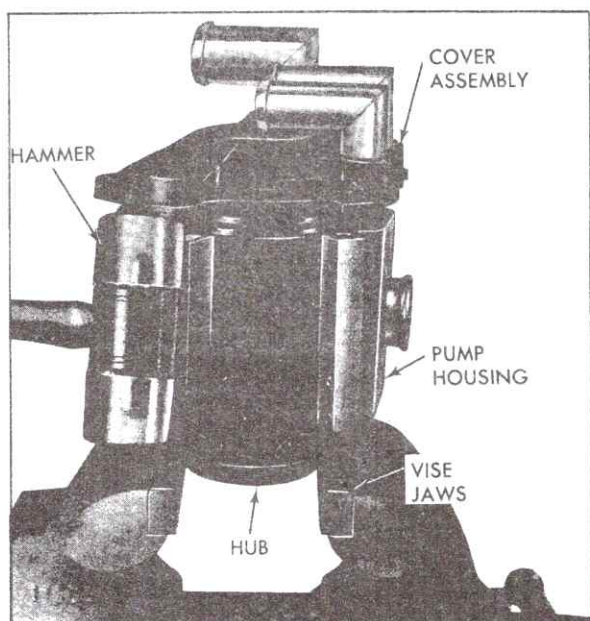

Fig. 6-156 Removing Pump Assembly, Cover in Vise
2. Place pump in vise with pulley hub in vise jaws, Fig. 6-156.